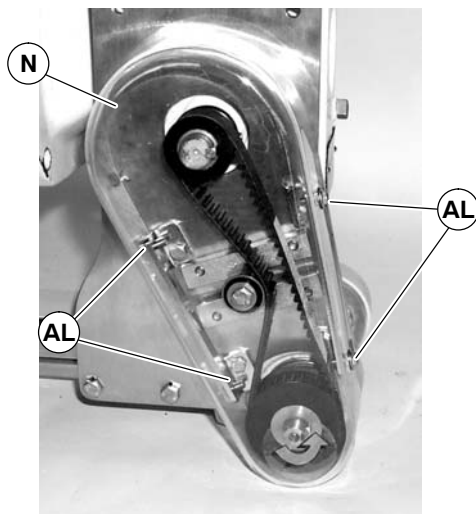

Figure 24
1. Loosen four screws (AL of Figure 24) and remove cover (N).
NOTE: Do not over-tighten screws (AL of Figure 24).
- Attach cover (N of Figure 24) with four screws (AL). Tighten screws to 35 in-lb (4 Nm).